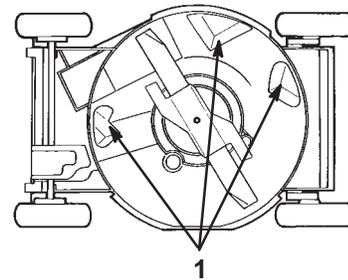

Figure 18
To ensure best performance, keep the underside of the lawn mower housing clean. Be especially careful to keep the kickers free of debris (Fig. 18).
3. Tip the lawn mower onto its left side (Fig. 18).